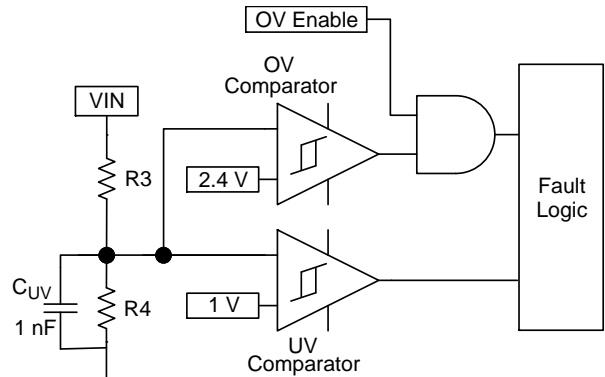

Figure 37. UV/OV Resistor Divider from the Input Line
The NCP1032 incorporates Vin input line under voltage (UV) and over voltage (OV) shutdown circuits. If the UV/OV pin is set below 1.0 V or above 2.4 V thresholds the power switch will stop switching and the part will use DSS until the problem is corrected. The comparators incorporate typical voltage hysteresis of 70 mV (UV) and 158 mV (OV) to prevent noise from inadvertently triggering the shutdown circuit. The UV/OV sense pin can be biased using an external resistor divider from the input line as shown in Figure 37. The UV/OV pin should be bypassed using a 1 nF capacitor to prevent triggering the UV/OV circuit during normal switching operation.